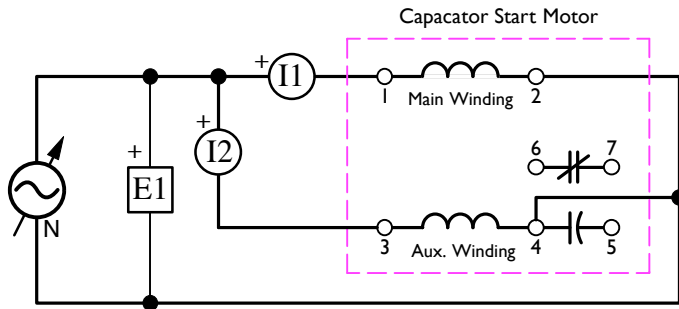

Figure 4.17: Capacitor Start Motor – Main and Auxiliary Winding
47. **Turn off the power supply** and set the voltage control knob to zero. Connect the auxiliary winding of the Capacitor-Start Motor as shown in Figure 4.17.